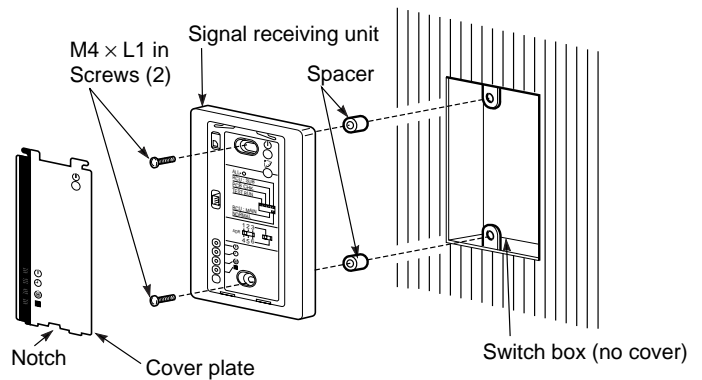

Fig. 7-13
- (2) Attach the signal receiving unit with the 2 small screws provided. Use the spacers and take care not to tighten the screws excessively. If the signal receiving unit will not seat well, cut the spacers to a suitable thickness. (Fig. 7-13)
- (3) Connect the signal receiving unit wiring (2 wires) correctly to the corresponding terminals in the electrical component box of the indoor unit.